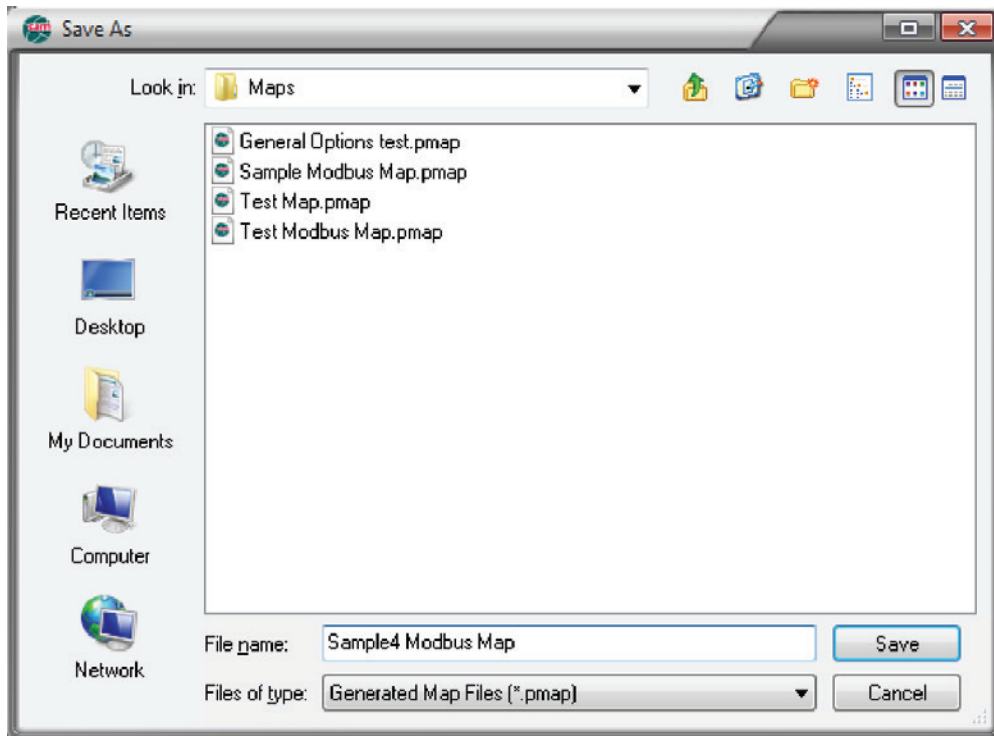

Figure 5.4—Save As dialog when creating a map
- When the *Save As* dialog (Figure 5.4) appears, enter the desired name in the “File Name” field. This name will be used for both the map (.pmap) and manual (.html) files. The map and manual files will be saved to the “C:\Cameron Data\ScanMap\Maps” folder unless otherwise specified.